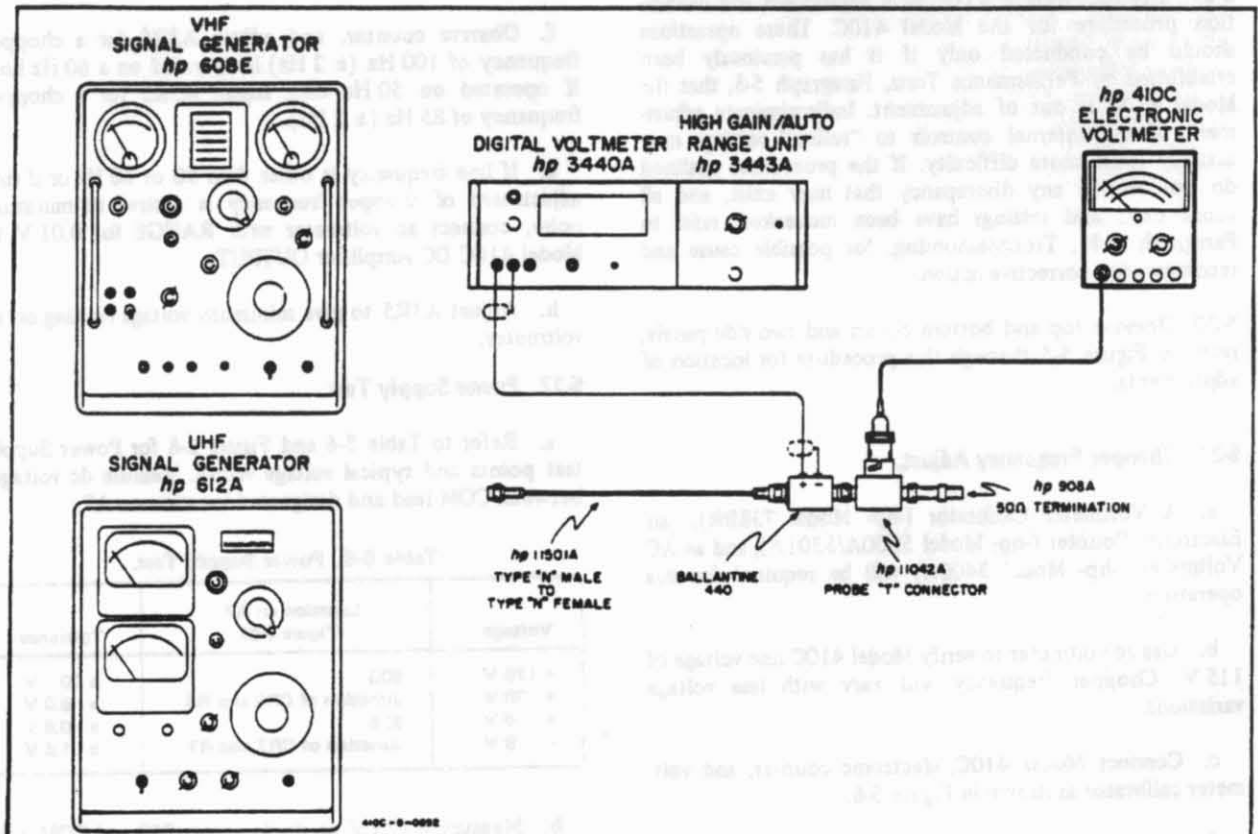

Figure 5-4. High Frequency Response Test.
- a. A VHF Signal Generator (-hp- Model 608E), a UHF Signal Generator (-hp- Model 612A), a Probe-T-Connector (-hp- Model 11042A), a Micropotentiometer (Ballantine Model 440), and a DC Voltmeter (-hp- Model 3440A/3443A) are required for this test. Figure 5-4 describes test arrangement to be used.
d. Replace VHF oscillator with UHF oscillator in Figure 5-4. Repeat steps b and c for UHF oscillator output frequencies from 480 MHz to 700 MHz.